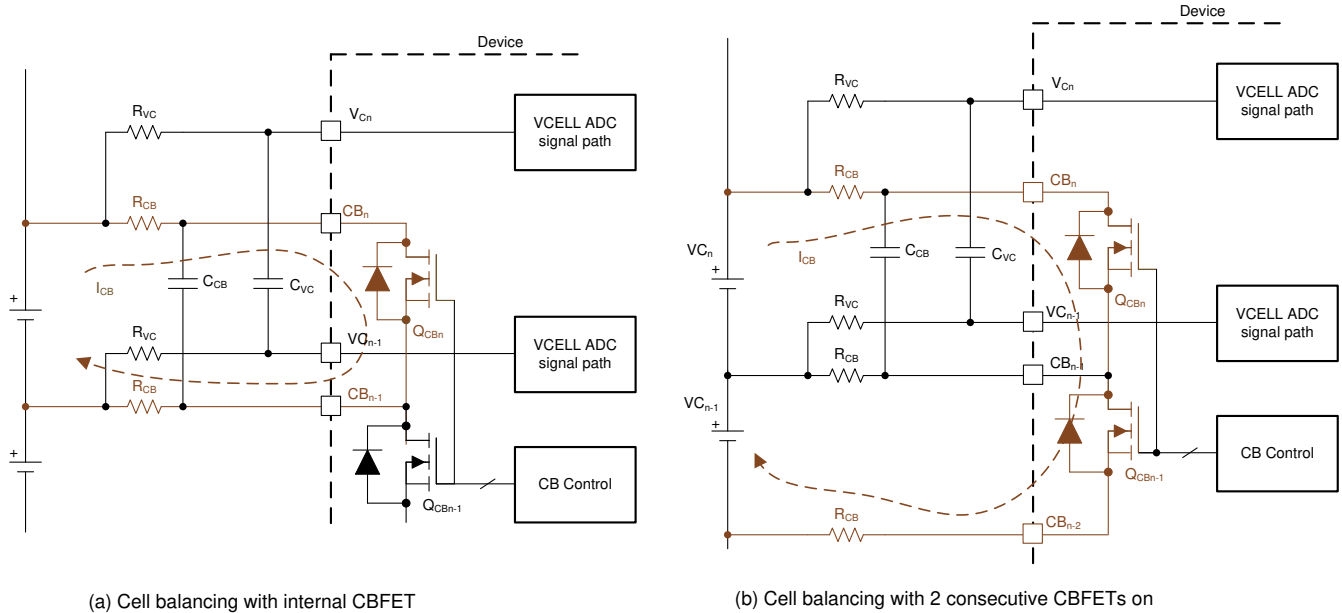

Figure 7-14. Internal Cell Balancing and the Flow of Balancing Current
- Balancing with no consecutive CBFET on (Figure 7-14 (a)): $I_{CB} = V_{Cell} / ((2 \times R_{CB}) + R_{dson_{QCB}})$
- Balancing with two consecutive CBFETs on (Figure 7-14 (b)): $I_{CB} = (\text{Sum of two } V_{CELL}) / ((2 \times R_{CB}) + R_{dson_{QCBn}} + R_{dson_{(QCBn-1)}})$
- Manual balancing control ($[AUTO_BAL] = 0$): With this method, the device will turn on the CBFETs that have non-zero balancing timer settings once $[BAL_GO] = 1$ is received. There is no odd and even channel switching during the cell balancing and the $BAL_CTRL1[DUTY2:0]$ setting does not apply under this control. Host MCU can enable two consecutive CBFETs with this method and a maximum of eight CBFETs can be enabled. When two consecutive CBFETs are enabled with both channels connected to battery cells, the balancing current is significantly different compared to no adjacent CBFET being on (Figure 7-14). The $DEV_CONF[NO_ADJ_CB]$ bit is provided to avoid inadvertent enabling of an adjacent CBFET for a system that is not intended to have an adjacent channel on for balancing. In this control method, the device is relying on the MCU to enable the proper channels. If the MCU sends $[BAL_GO] = 1$ but the CBFETs are enabled with an invalid condition, the device does not start balancing and sets $BAL_STAT[INVALID_CBCONF] = 1$. Invalid configurations are either: